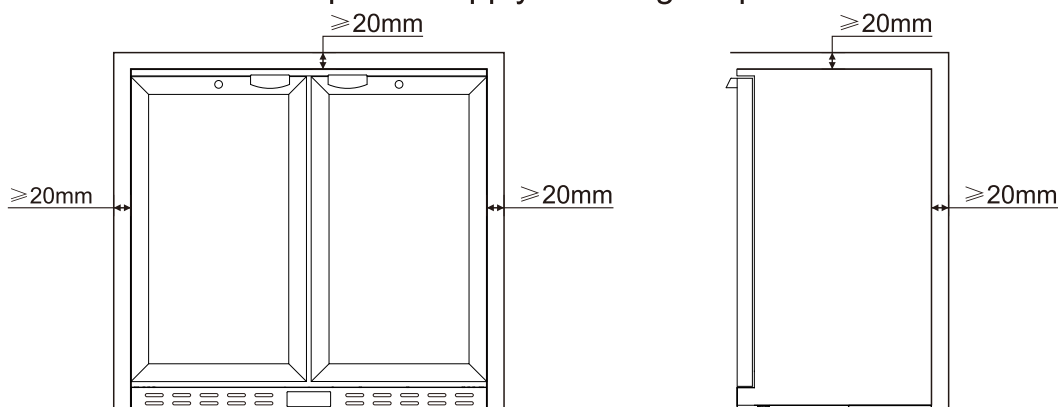

Figure 1
- As shown in Figure 1, the appliance must have a minimum ventilation gap of at least 20mm at sides, top and rear. (Models SGT1 and SGT2 must also have the rear spacers fitted to the compressor compartment rear cover. Note: Spacers are supplied with fitting instructions in a separate bag that has been placed inside the cooler). The front grille must be completely unobstructed. Please avoid placing it next to any source of heat or humidity such as a heater outlet, a glass washer or ice making machine. If installing within a run of several cabinets side-by-side, then it is advised to have them in individual compartments to avoid re-circulation of the waste hot air.